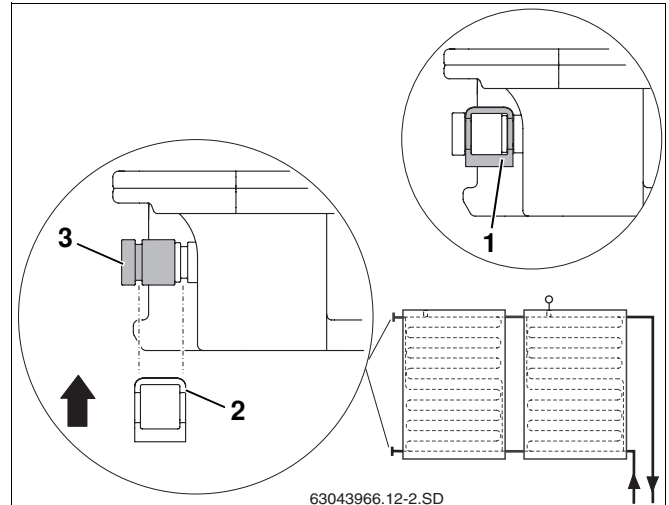

Fig. 42 Securing end cap with bracket
- Push end cap with the O-rings (Fig. 42, **Item 3**) onto the collector connection.
- Push bracket (Fig. 42, **Item 2**) over the end cap and collector connection to secure the connection.
- Secure each end cap with a bracket (Fig. 42, **Item 1**).